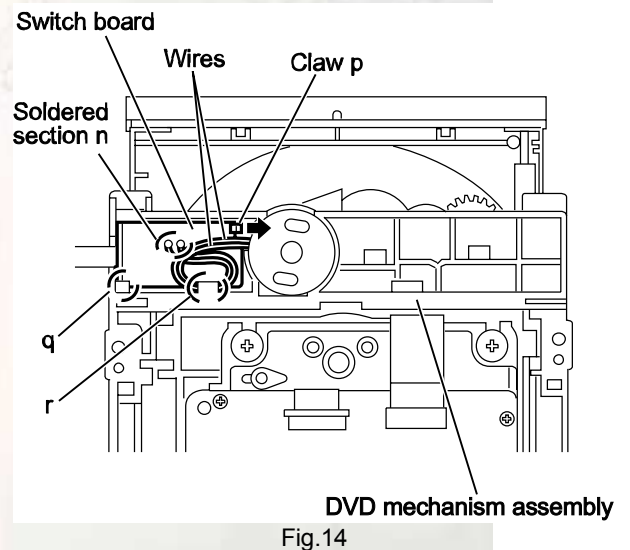

Fig.14
3.2.8 Removing the switch board (See Fig.14.)
3.2.9 Removing the motor (See Figs.14 and 15)
Put the wires on the section **r** after attaching the motor to the DVD mechanism assembly. (See Fig.14.)